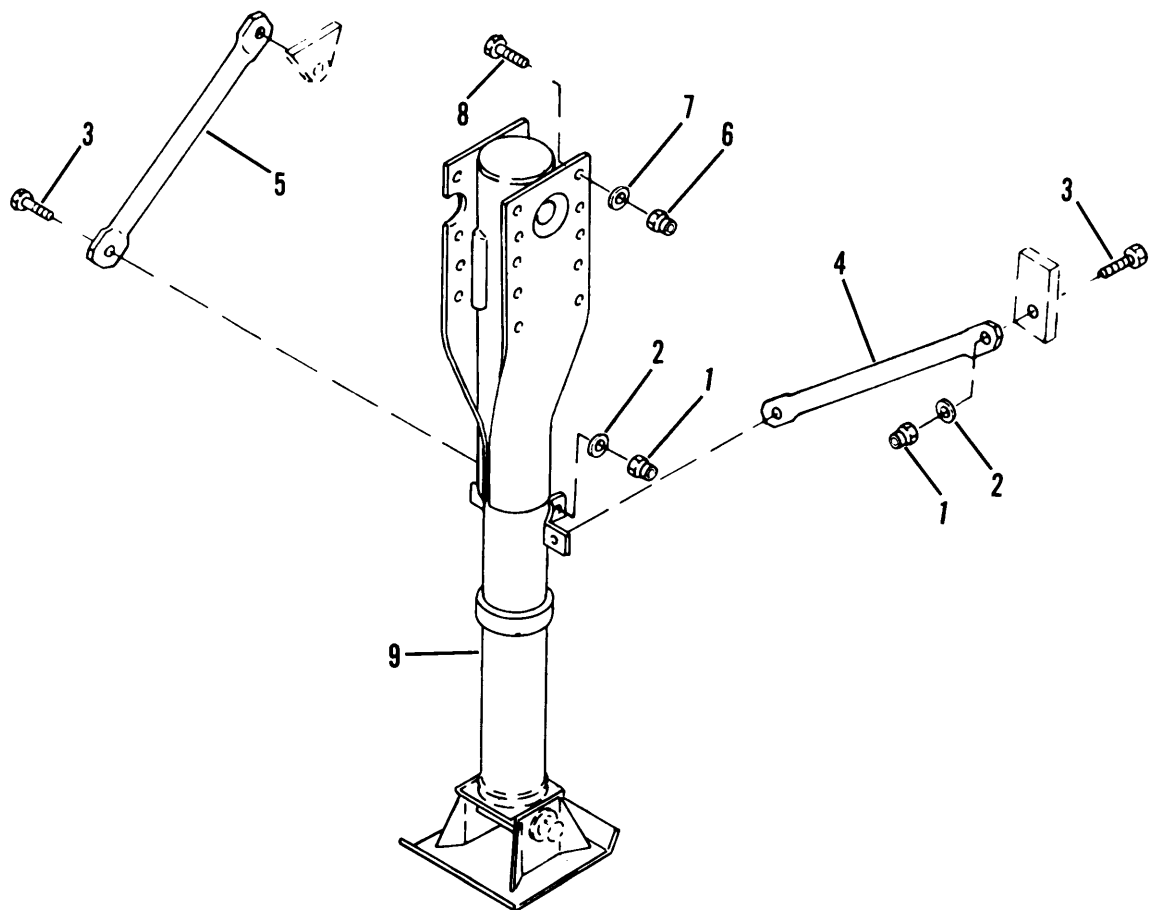

Figure 4-56. Landing Leg
- (2) Remove four nuts (1, fig. 4-56), washers (2) and bolts (3) holding braces (4 and 5). Remove braces (4 and 5).
(1) Remove four nuts (1, fig. 4-56), washers (2) and bolts (3) holding braces (4 and 5). Remove braces (4 and 5).
(1) Install landing (9, fig. 4-56) and secure with eight bolts (8), washers (7) and nuts (6). Torque nuts to 150-160 lb ft (204-218 Nm).
- (1) Install left landing leg (9, fig. 4-56) and secure with eight bolts (8), washers (7) and nuts (6). Torque nuts to 150-160 lb ft (204-218 Nm).